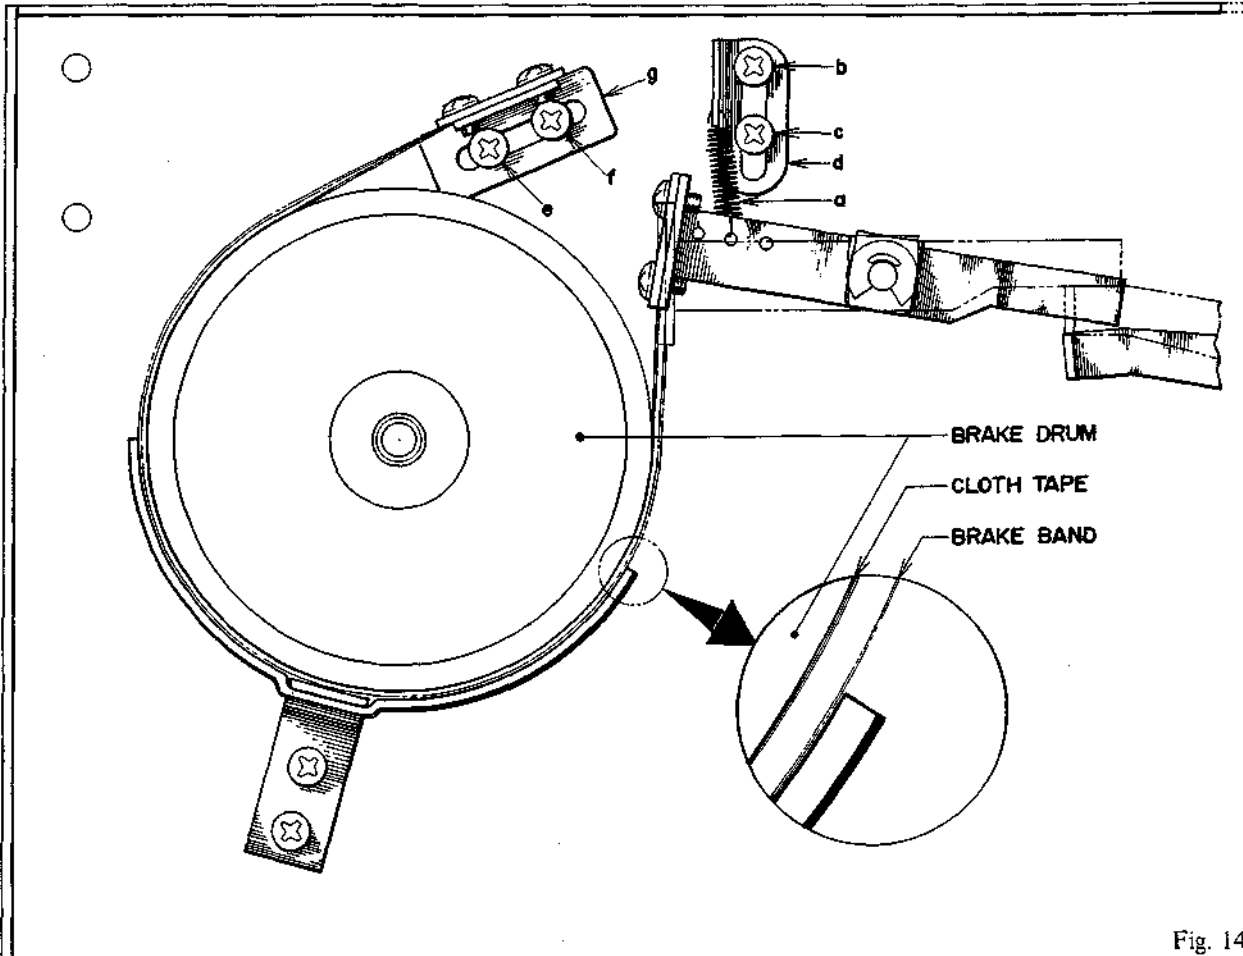

Fig. 14
- 2) Brake tension adjustment can be made as follows: (Refer to Fig. 14)
d) Only the left side is shown in Fig. 14, but the right side must be adjusted in the same way.
NOTE: In making brake tension adjustment, at all modes except stop mode, confirm that the brake band completely separates from the cloth tape on the brake drum. (Refer to Fig. 14)